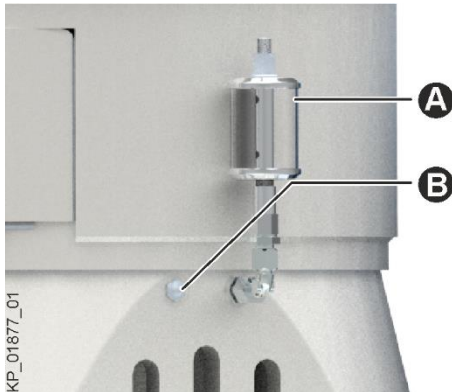

Fig. 42: Lubricating nipple and collecting bin
- Clean the area around the lubricating nipple (Fig. 42/B) and the mouth piece of the grease gun.
- Slowly and gently press in grease until the old grease becomes visible in the collecting bin (Fig. 42/A).